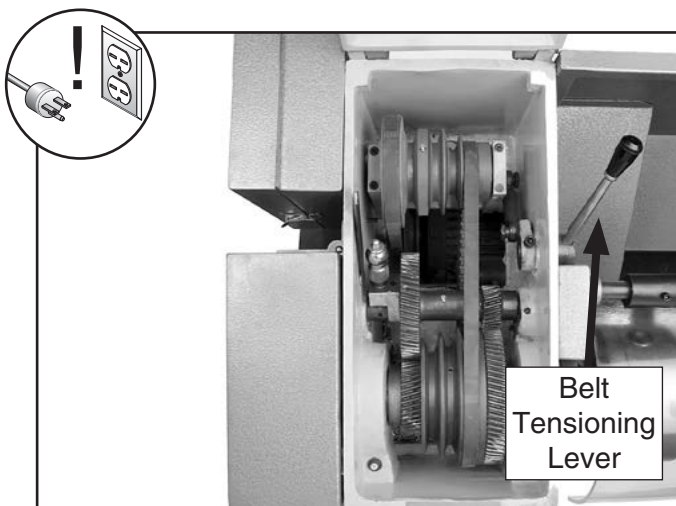

Figure 90. V-belt tensioning lever.
2. Push the belt tensioning lever back to tension both belts (see **Figure 90**).
Proper tensioning of the spindle V-belt is automatically set when you push the belt tensioning lever back (see **Figure 90**).